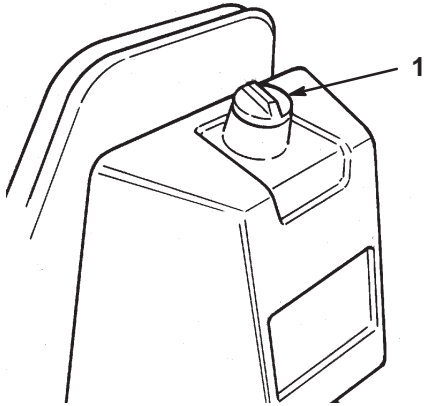

Figure 22
1. Clean the area around the fuel tank cap (Fig. 22).